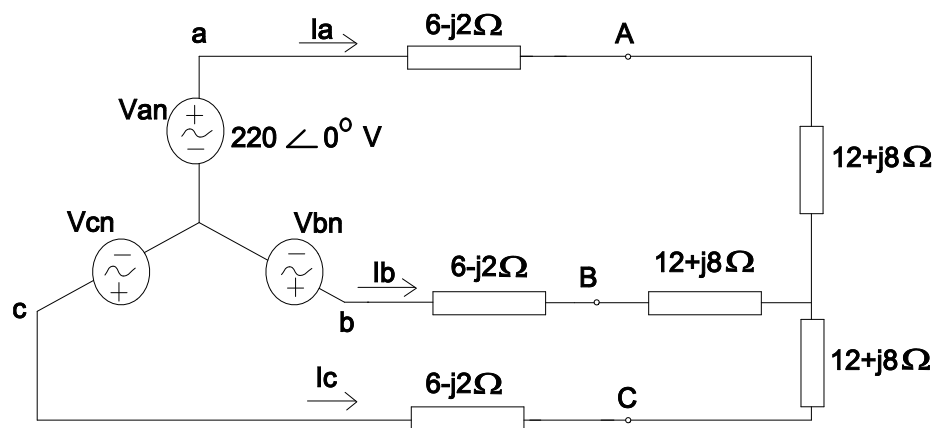

Figure 4
- b. The balanced three-phase circuit shown in Figure 4 consists of a three-phase Y-connected source supplying a balanced load through identical line impedances. The phase voltage of the source is $V_{an} = 220 \angle 0^\circ$ and each line has an impedance of